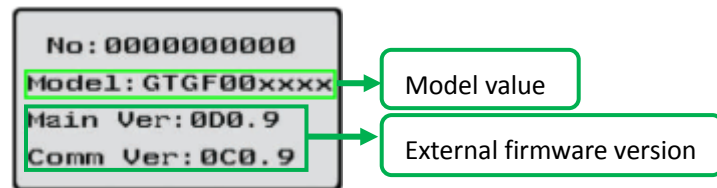
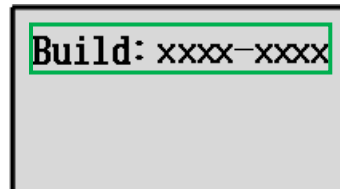

Fig.2.3.2 Property interface
Fig.2.3.3 Internal FW Ver. on LCD
2. Please provide the model value shown as Fig.2.3.2 or Fig.2.3.3 to Growatt service.